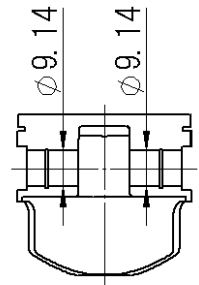

Fig. 11
- viii) Measure the inner diameter of the piston pin hole (Fig. 11) with an internal caliper gauge.